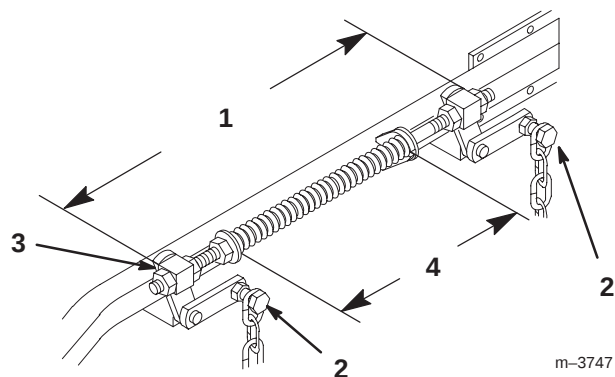

Figure 50
6. Loosen four (4) top chain bolts in slots. Check the length of the rod/swivel assemblies. Distance from outside of rear swivel to outside of front swivel should be 19-17/32" (496 mm) (Fig. 50). Make sure that all four swivels move freely in holes.
8. Lift up on four (4) top chain attachment bolts, in the slots, to take slack out of chains and tighten flange lock nuts. (Deck is still supported by two rear and one front blocks under mower.)
2. Springs are compressed so the distance between the two large washers should be 11" (279 mm) (Fig. 50).
3. Adjust by turning nut in front of each spring (Fig. 50). Clockwise will shorten spring; counterclockwise will lengthen spring.